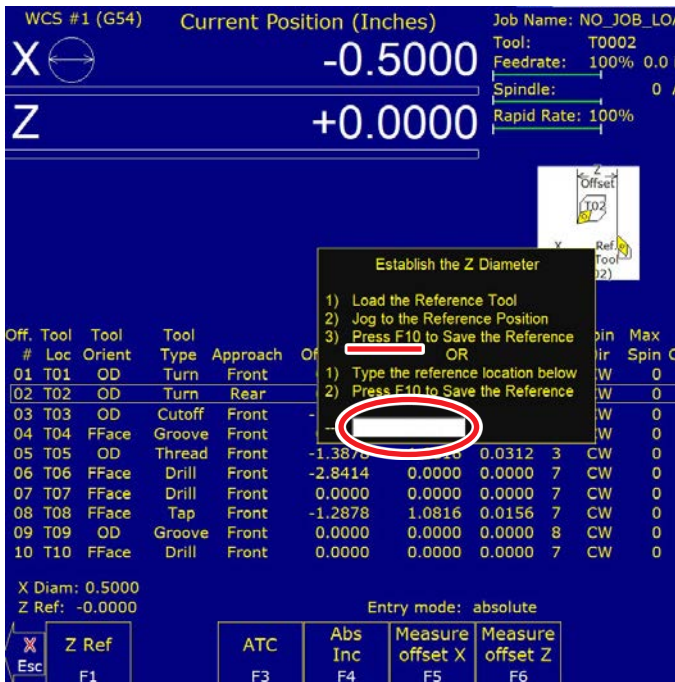

FIGURE 20
6. If your tool is at Z Zero (which ours is), click on Save F10. If you have moved your tool away from the face by .010" (as an example), Then, enter .010 into the white box and Then, click on Save F10 (see Figure 20).